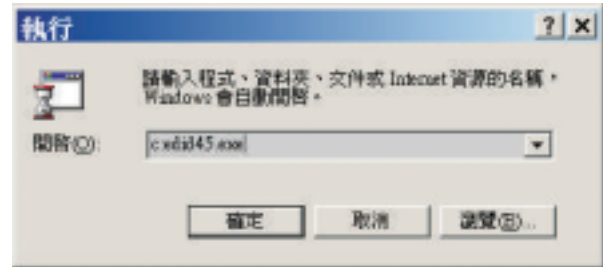

Fig. 5
3. At the submenu, type the letter of your computer's hard disk drive followed by :EDID45 (for example, C:\EDID45, as shown in Fig. 5).